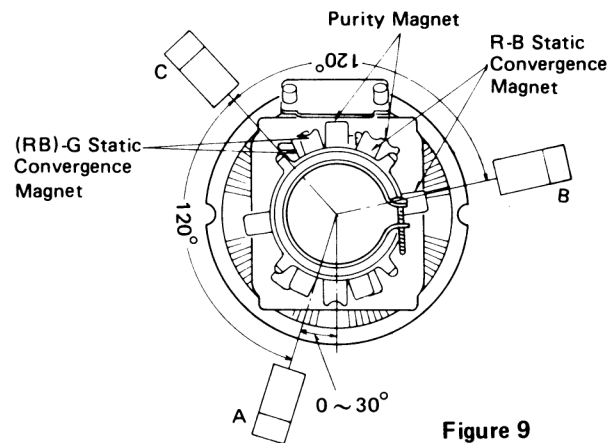

Figure 9
6. Remove the DY wedges (See figure 9.) and slightly tilt (do not rotate) the deflection yoke horizontally and vertically to obtain good overall convergence.
7. Secure the deflection yoke by reinserting the wedges. (See figure 9.)
1. Wedge A shown in figure 9 should be fixed within a range of 0° ~ 30° to the left of the vertical line as shown.